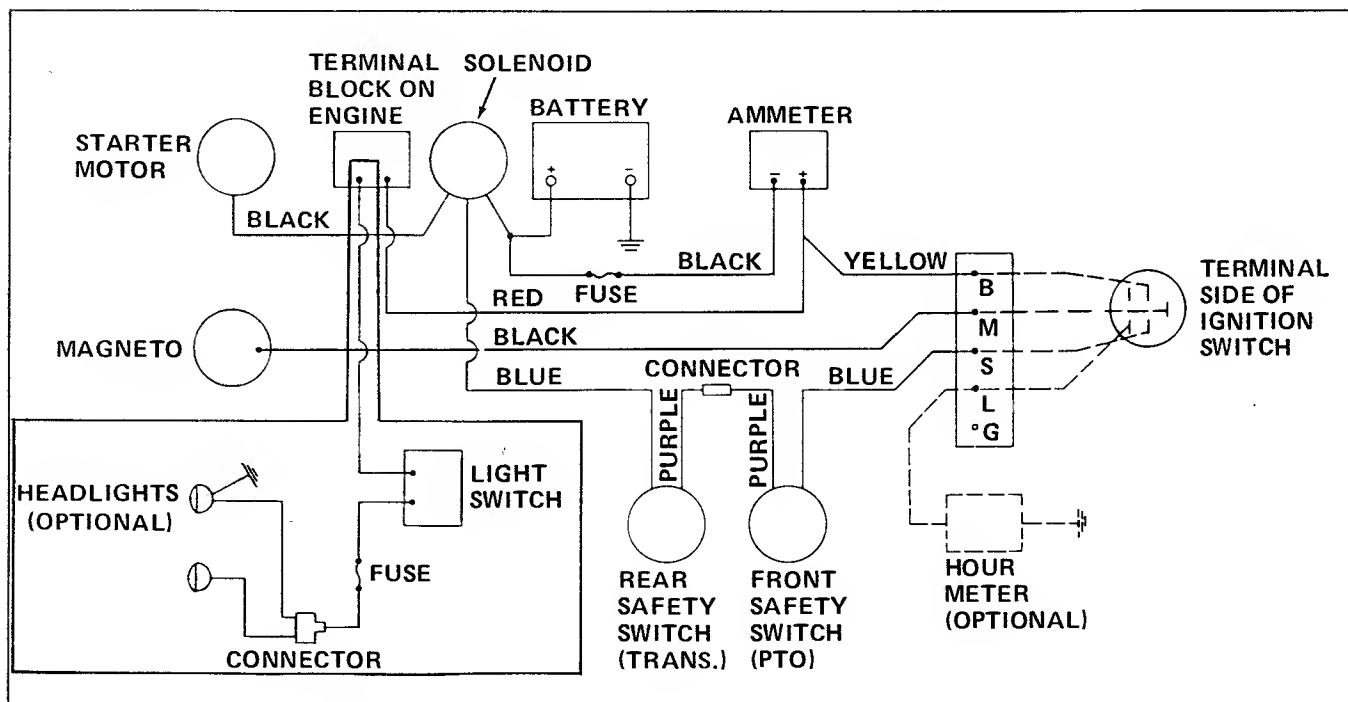

Figure 22. Electrical Wiring Diagram
1. Starter motor does not run.	<ul style="list-style-type: none"> A. Gear shift lever not in neutral position. B. PTO clutch lever not in disengaged position. C. Fuse blown and must be replaced. D. Wiring loose or broken. Visually check wiring and replace broken or frayed wires; tighten loose connections. (See figure 22.) E. Battery terminals are corroded and require cleaning. F. Battery discharged or dead. Charge or replace as necessary. G. Solenoid or starter motor faulty. May need replacement.
This section of the manual contains adjustment procedures for the tractor and engine. A simplified wiring diagram of the tractor (figure 22) is provided as an aid in locating electrical problems.
A wiring diagram is provided in figure 22 to aid in troubleshooting and repair of electrical problems.